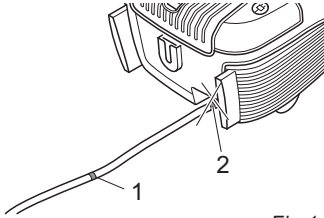

Fig.11
2. Pull the cable holding the plug (Fig. 11/15) until the yellow mark (Fig. 11/1) is reached.
If the red mark (Fig. 11/2) is visible, then retract the cable again until it is no longer visible, ▷ *Chapter 3.2, "Switching off and retracting the power cable"*. Otherwise the cable can break off. There is a risk of electric shock.